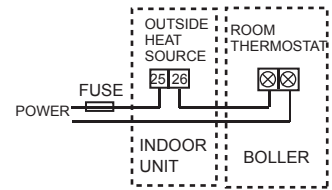

Fig.6-12
2. If the external heat source needs one control signal of the specified voltage (such as 220-240V~ 50Hz), then it need to supply the control terminal 25 and 26 with corresponding power as describing in Fig.6-12.